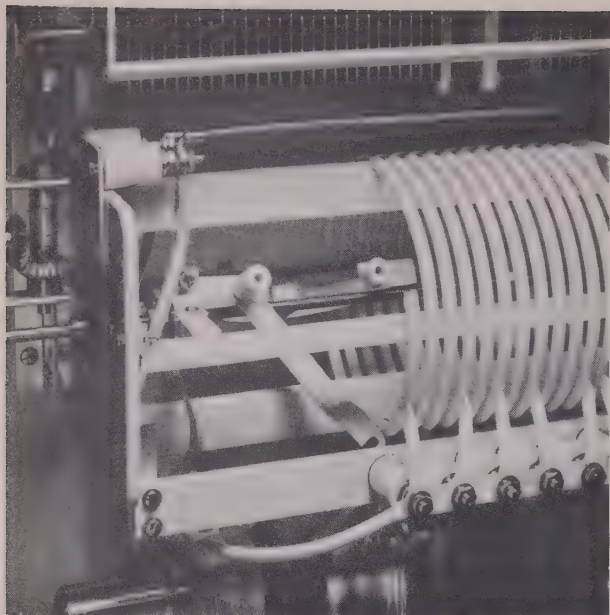

Figure 31. Radio Transmitter Model 96D, antenna coil L-11E, installation step 2
(4) Twist the top of the coil over the threaded shaft. See fig. 31.